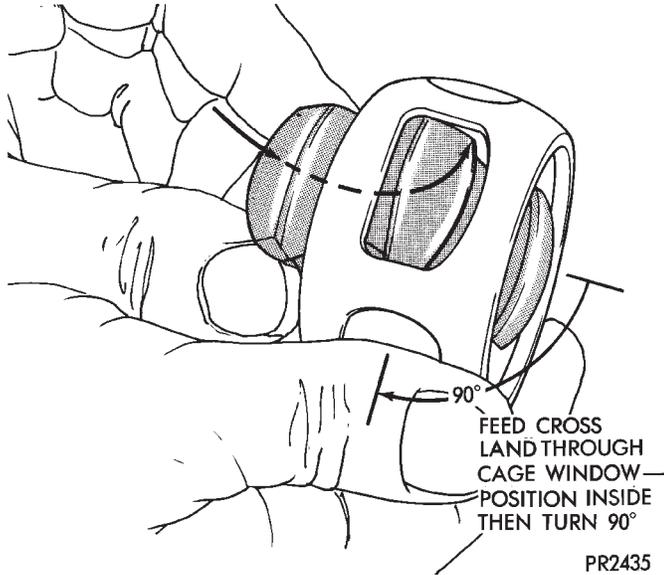
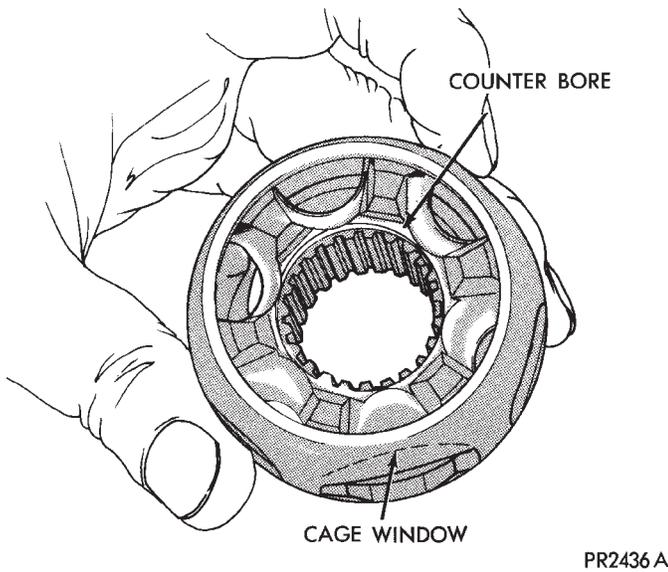
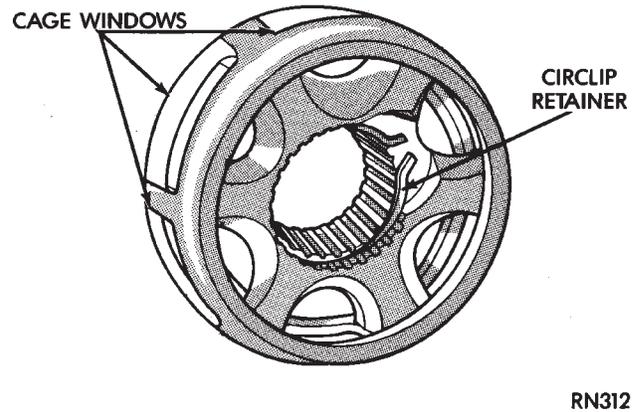

Fig. 2 Installing Cross into Cage
Fig. 3 Cage & Cross Assembled G.K.N.
Fig. 5 Cage & Cross Assembled S.S.G.
(3) Lightly oil all components before assembling outer joint.
(4) Align parts according to paint markings.
(5) Insert one of the inner race (cross) lands into cage window (Fig. 2) and feed race into cage. Pivot cross 90° to complete cage assembly (Fig. 3).
When properly assembled the large counterbore in the cross should be facing outward from the joint on G.K.N. units (Figs.3 and 6). On the S.S.G. joint the internal circlip in the cross will be facing outward from the housing (Fig. 5).